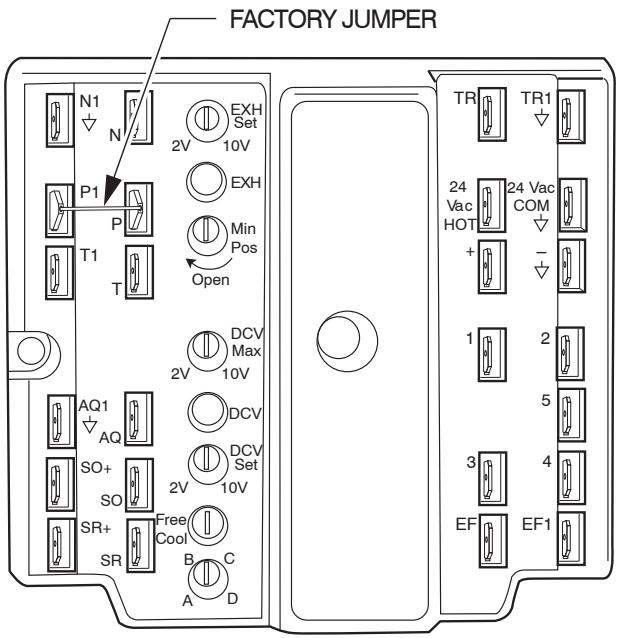

Fig. 92 - EconoMi\$er IV Control
- Ensure that the factory-installed jumper is in place across terminals P and P1. If remote damper positioning is being used, make sure that the terminals are wired according to Fig. 92 and that the minimum position potentiometer is turned fully clockwise.
To control the minimum damper position remotely, remove the factory-installed jumper on the P and P1 terminals on the EconoMi\$er IV controller. Wire the field-supplied potentiometer to the P and P1 terminals on the EconoMi\$er IV controller. See Fig. 92.